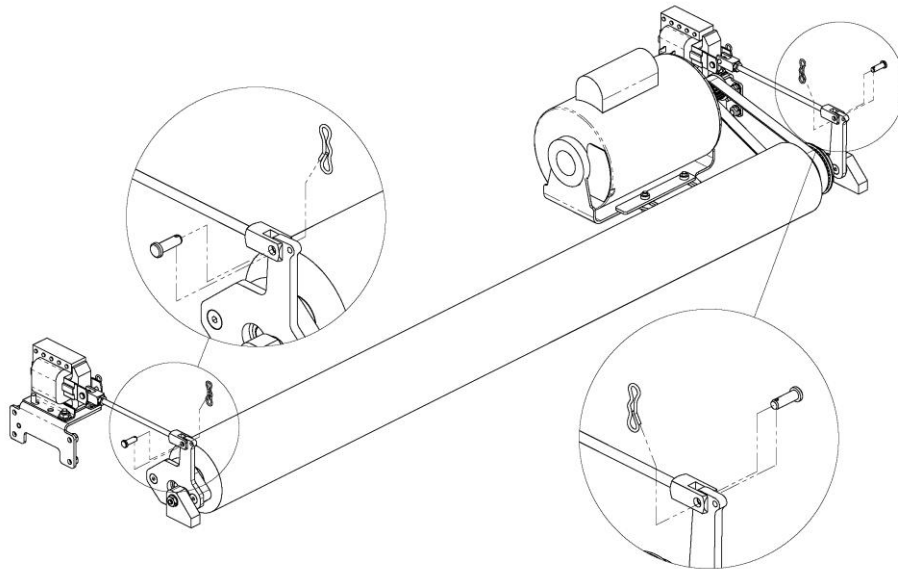

Figure 4- 7
3. Position the linkage as shown in Figure 4- 8 on the next page.